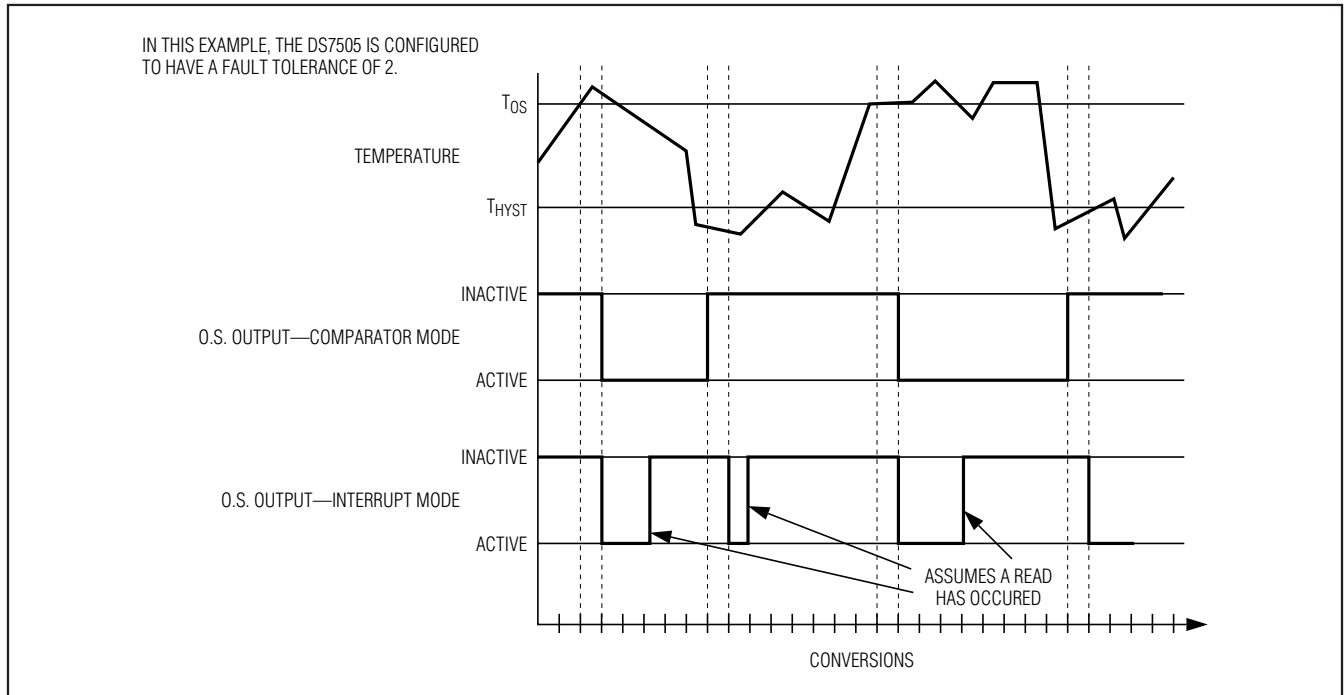

Figure 4. O.S. Output Operation Example
When the thermostat is in comparator mode, O.S. can be programmed to operate with any amount of hysteresis. The O.S. output becomes active when the measured temperature exceeds the TOS value a consecutive number of times as defined by the F1 and F0 fault tolerance (FT) bits in the configuration register. O.S. then stays active until the first time the temperature falls below the value stored in THYST. Putting the device into shutdown mode does not clear O.S. in comparator mode. Thermostat comparator mode operation with FT = 2 is illustrated in Figure 4.
when the measured temperature falls below the  $T_{HYST}$  value a consecutive number of times equal to the FT value. Again, O.S. can only be cleared by putting the device into shutdown mode or reading any register. Thus, this interrupt/clear process is cyclical between  $T_{OST}$  and  $T_{HYST}$  events (i.e.,  $T_{OST}$ , clear,  $T_{HYST}$ , clear,  $T_{OST}$ , clear,  $T_{HYST}$ , clear, etc.). Thermostat interrupt mode operation with  $FT = 2$  is illustrated in Figure 4.